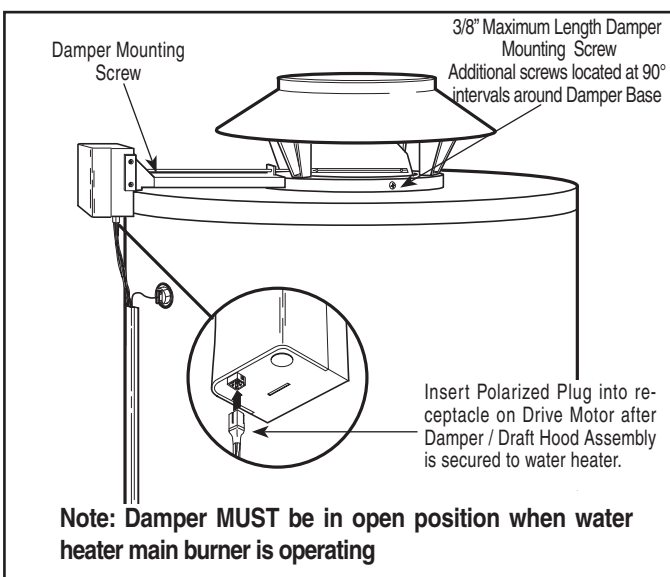

Figure 3. — Installing Damper / Draft Hood Assembly
- B.) Mark a spot on top pan through the hole in support bracket at the rear of the drive motor. (Refer to Figure 3.)
- D.) Reinstall the draft hood - flue damper assembly and secure it with a sheet metal screw through the support bracket. Also install three (3) 3/8" (.95 cm) maximum length self drilling screws (supplied with Damper Assembly) into holes located around the base of Damper Assembly. (Refer to Figure 3.)
- E.) Electrical connections to the drive motor are made with a plug that is polarized to insure correct insertion. The drive motor receptacle is external to the casing for easy access. (Refer to Figure 3.)